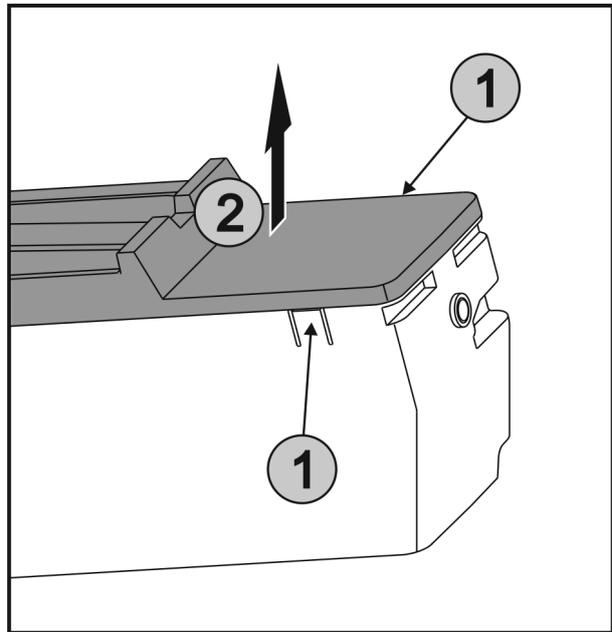

Fig. 81
- ▶ Press the lugs Fig. 81 (1) on both sides of the EasyTwist-Ice simultaneously and take off the cover Fig. 81 (2) upwards.